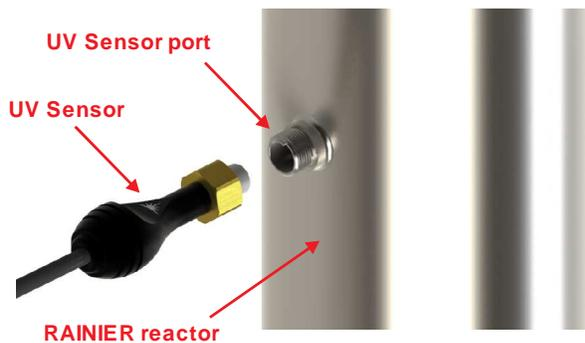
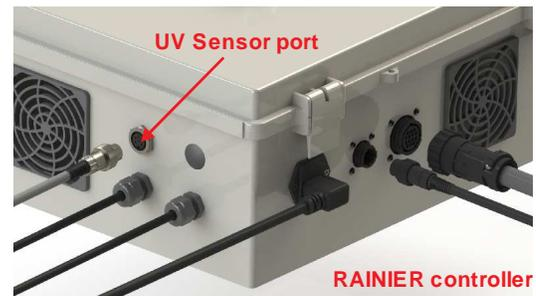

Figure 6. UV Sensor Installation
Figure 7. Sensor Connection
Step 11: (Applies only if you have a UV sensor - RAINIER^{6.0}). The UV sensor for the system is packaged in a separate plastic bag. Carefully remove the sensor from its packaging and insert the sensor into the UV sensor port (remove the protective cap on the UV reactor first). The sensor can only go in one way. Ensure that the flat portion of the UV sensor matches up with the half metal lip on the sensor port (flat portion should face the lamp connection end) (see Figure 6). Ensure that the sensor is fully seated in the sensor port and then tighten (turning clockwise) the sensor nut. **PLEASE NOTE:** DO NOT over tighten the nut as this could damage the Teflon sensor body. Plug the male connector into the sensor port located on the right side of the control panel, (see Figure 7), (make sure the control panel is not plugged in as the sensor MUST be attached before power is applied to the panel).